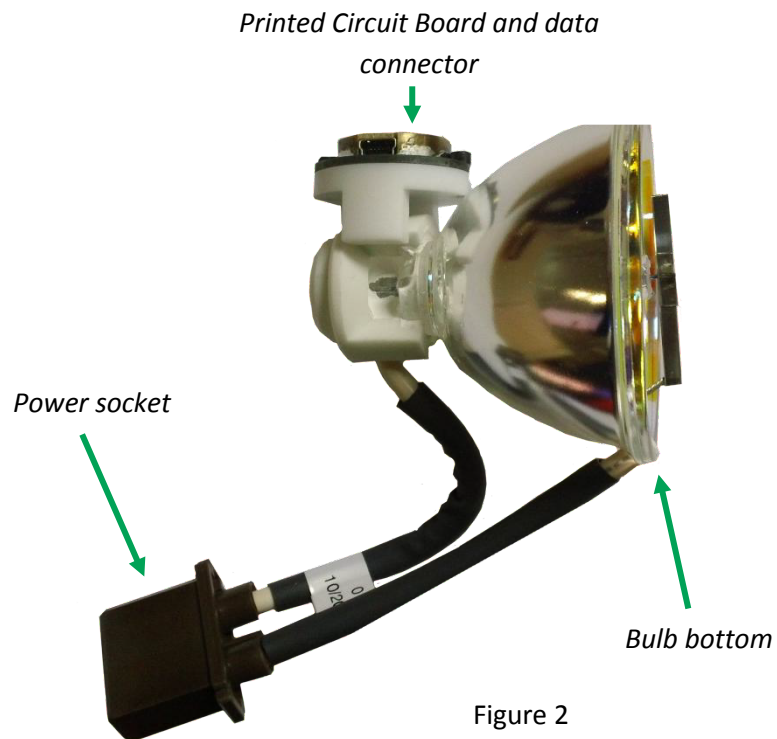

Figure 2
- 5) This will orientate the bulb with the Printed Circuit Board and data socket facing upwards – see Figure 2.